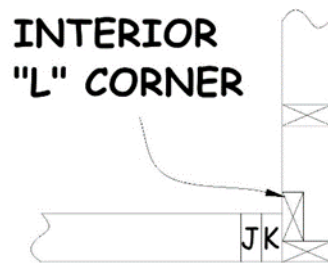

Figure 3-11. Interior L-Corner Configuration.
5. At corners and intersections, pay attention to whether a door will be built at that location. If so, make the room wall long and the door wall short, not the other way around. Include an “L-Corner” at the door end of the room wall and lay out the door plates so that the KJ pair abuts the L-Corner (see Figure 3-11). This allows for easy nailing through the “L” into the King stud. This configuration also provides a stronger corner that does not depend on nailing one stud into the edge of another stud. In addition, nailing the end of the long wall to the floor provides a stronger anchor than does toenailing the KJ pair to the floor.
2. Recheck wall intersections to determine which wall end should abut the side of the other wall (which wall will be the “long” wall and which will be the “short” wall). This may be dictated by an adjoining door. (See Section 3.6.5 and Figure 3-11 above.)
- c. Where a door will be attached at the end of a bathroom or bedroom wall, mark the end of the wall for a 2x4 L-corner oriented to allow nailing through the L-corner into the King stud of the door (see Figure 3-11). This is similar to the 2x6 L-corners used in the exterior walls.
- a. The short wall next to the tub/shower will typically be 36" long. As usual, layout studs on 24" centers starting at the intersecting wall. At the opposite end, layout a 2x4-2x6 L-corner similar to that shown in Figure 3-11, with the 2x6 base of the L on the surface facing the tub. This will provide vertical blocking to which the shower flange can be attached, 31½" from the wall.